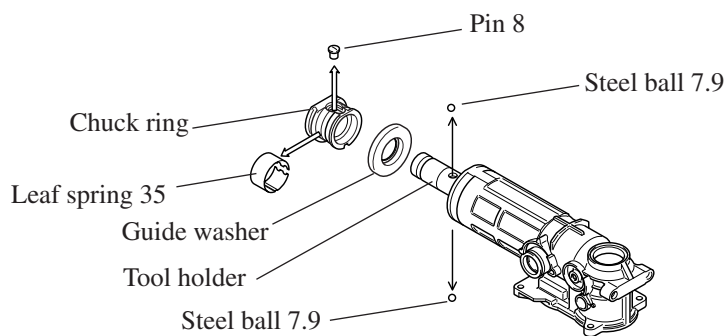

Fig. 18
- (3) Take off leaf spring 35 and pin 8 from chuck ring. And then, disassemble chuck ring, 2 pcs. of steel balls 7.9 and guide washer from tool holder as illustrated in Fig. 18.